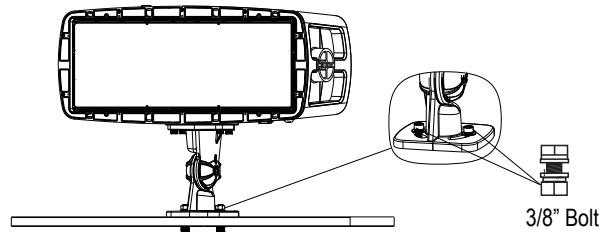

Figure 5
(1) M10 bolt/nut, along with flat washers and a lock washer kit (Figure 5).